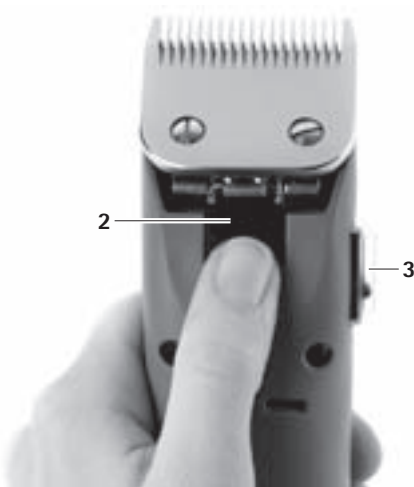

Fig. 4
- Press ON/OFF switch 3 to switch off Clipper FAV5, see Fig. 4.
- Press shearing head lock 2, see Fig. 4.